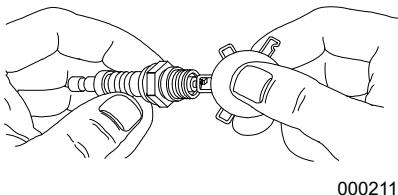

Figure 4-4. Spark Plug
3. Inspect electrode gap with feeler gauge and reset spark plug gap to 0.028 - 0.031 in (0.70 - 0.80 mm). See **Figure 4-4**.